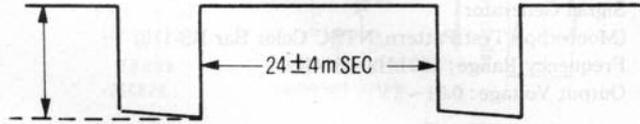

Fig. 3
3. Make sure that the waveform of TP22 becomes as shown in Fig. 3.